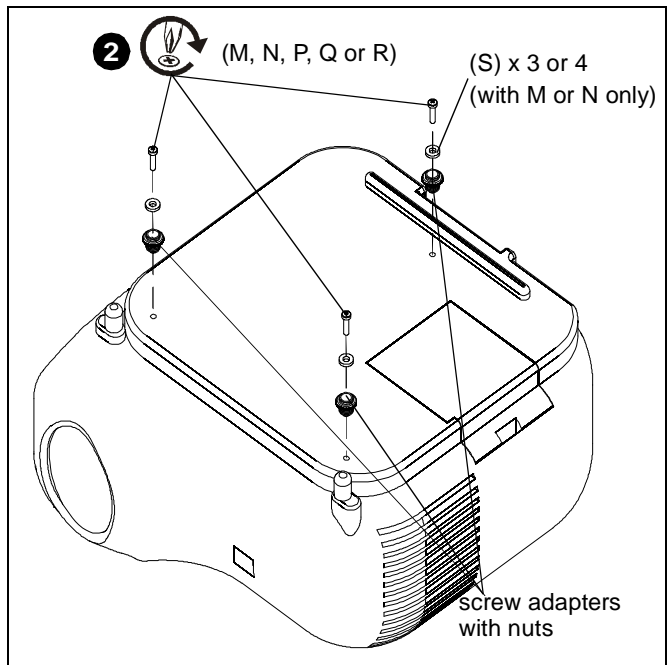

Figure 2
2. Insert screws through M4 flat washers (S), screw adapters with height-adjustable nuts and into projector holes. (See Figure 2)